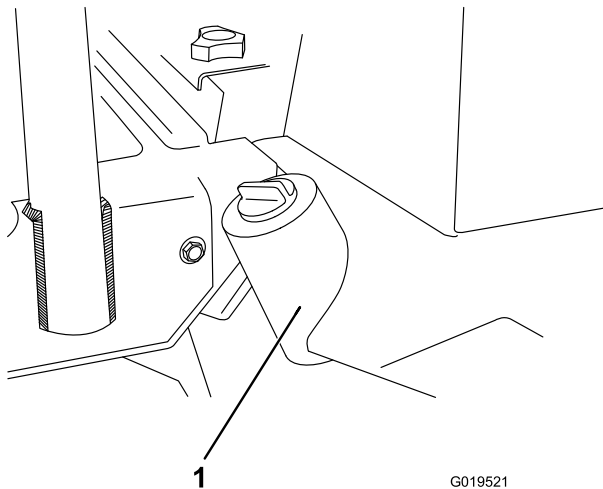

Figure 77
2. Remove drain plug from bottom of reservoir (Figure 77) and let hydraulic fluid flow into drain pan. Install and tighten plug when hydraulic fluid stops draining.